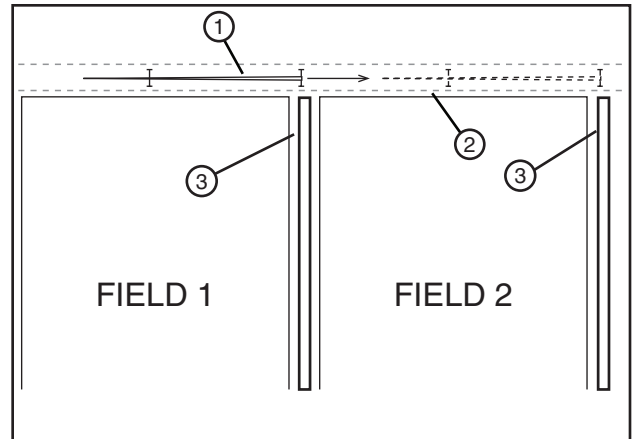

Figure 81-1 1. Machine
1. Position the machine in the tow lane. See figure 81-1.